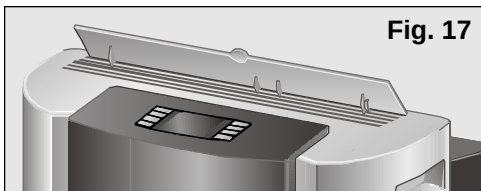

Fig. 17
- ☐ Lift the air director on the top of the appliance, **Fig. 17**.